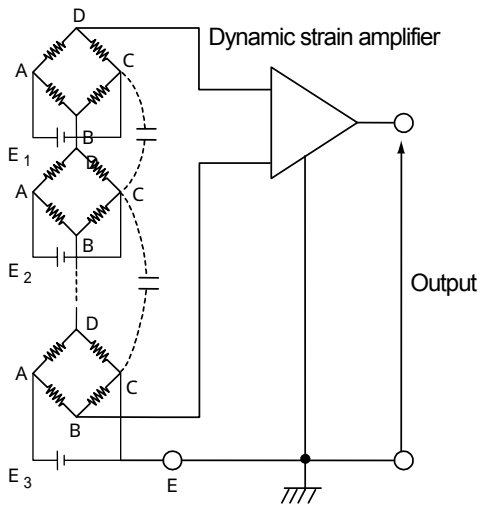

Fig. 4-13
(1) When calculating value of addition (Fig. 4-13)
For use as above fig. 4-13 to 4-15, rated capacity needs to be equal if using transducers, and special attention is required on capacity of the bridge supply if using dynamic strain measuring equipments.